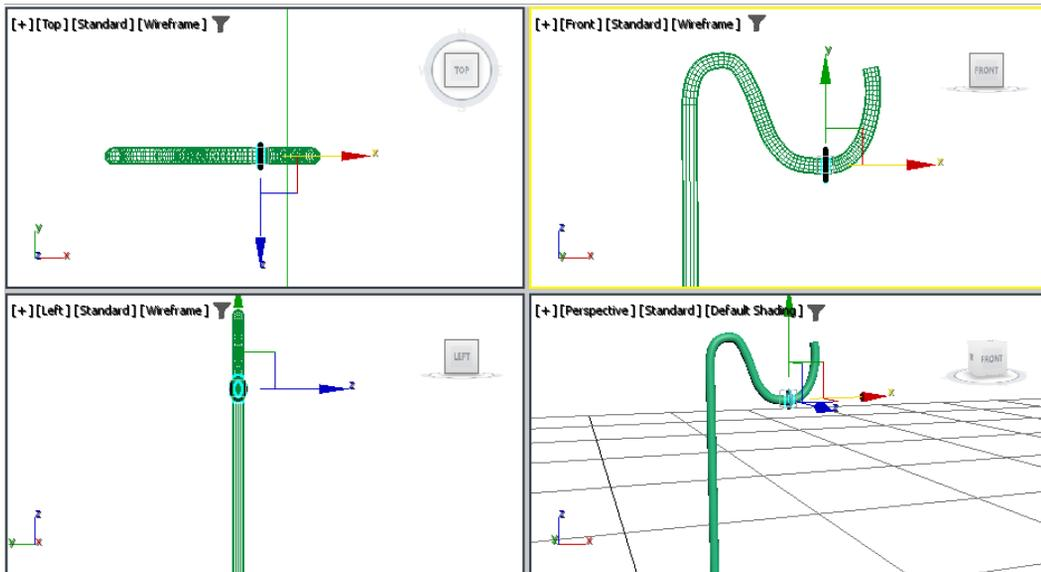

Figure 5-29 The joint aligned in all viewports
- Invoke the **Maximize Viewport Toggle** tool to display all viewports. Make sure the **Select and Move** tool is invoked in the **Main Toolbar** and align *joint* in all viewports, as shown in Figure 5-29.